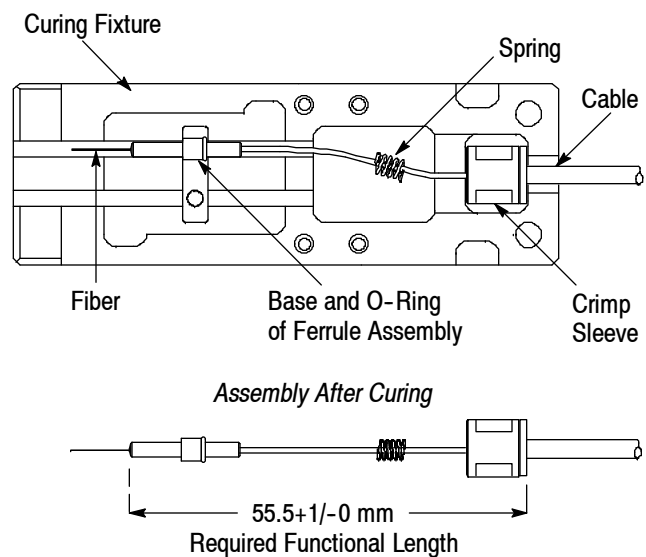

Figure 7
18. Measure the assembly to make sure that it conforms to the dimension given in Figure 7. If it does not, re-strip and re-terminate the fiber.